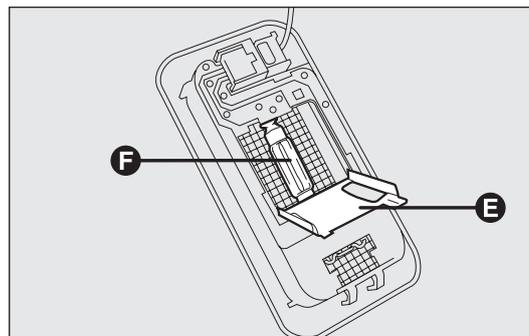

fig. 178
- open the protective flap E-fig. 178;